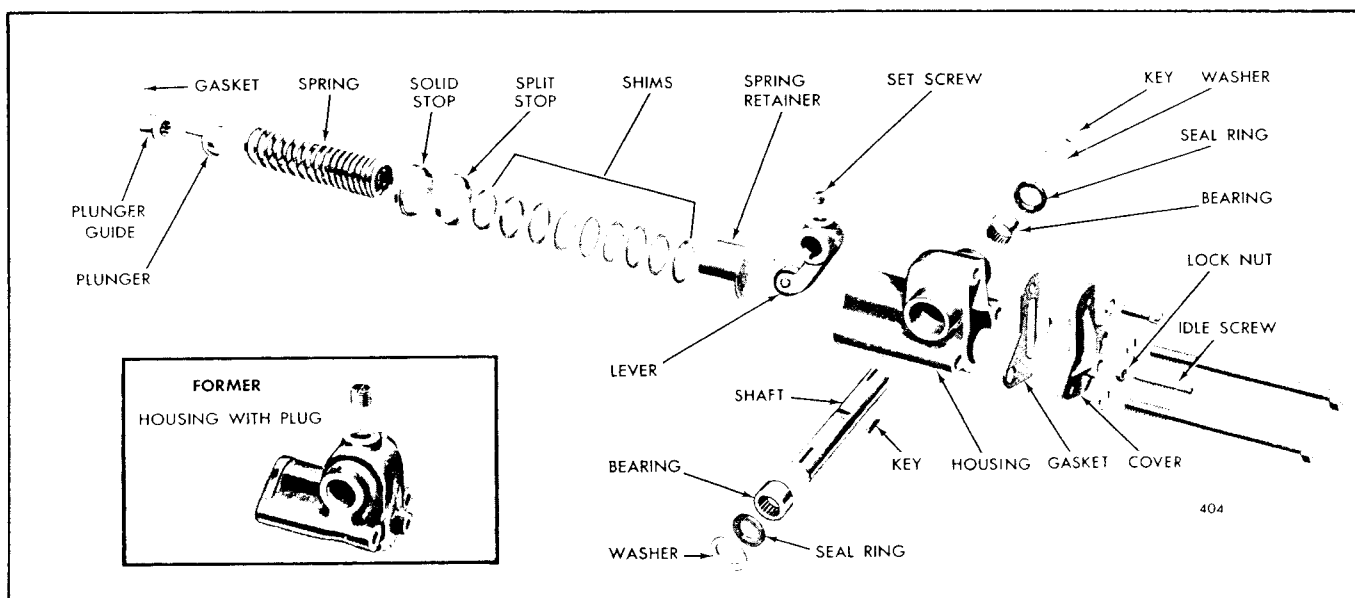

Fig. 6 - Variable Speed Spring Housing Assembly
3. Remove the plain washer and seal ring. If a booster spring lever is used, a washer and seal ring is used at each end of the shaft (Fig. 6).